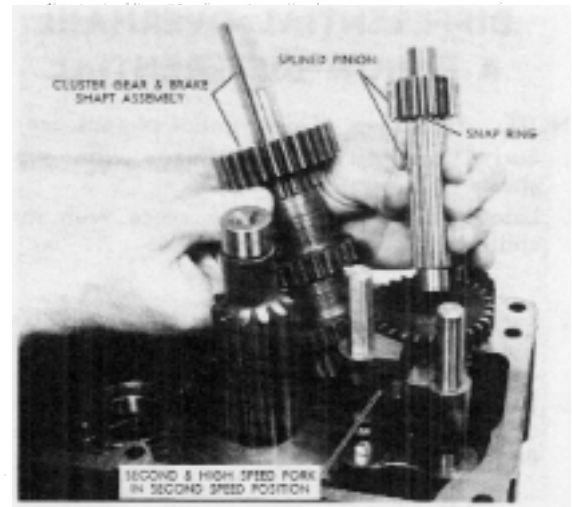

FIGURE 18
- Install the splined shaft and gear through the two splined sliding gears seating the bottom end of the shaft into the input gear bearing. See Figure 18. Install the cluster gear and brake shaft assembly carefully seating it in its bearing and meshing it with its related gears.